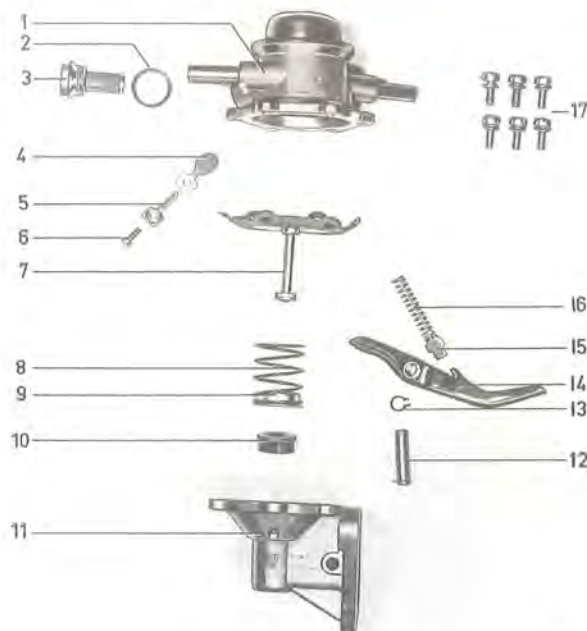

Fig. 2-87. Fuel pump, dismantled
1. Screw out the plug (3, Fig. 2-87) with strainer.